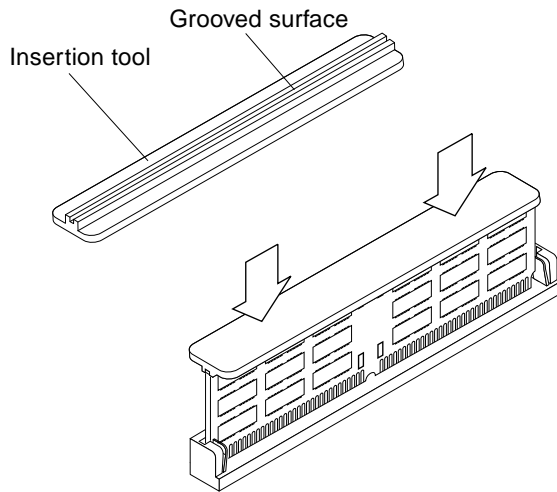
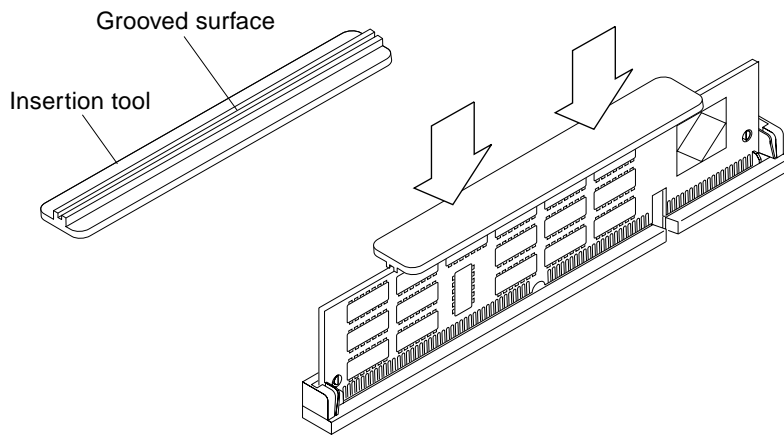

FIGURE 11-31 Inserting a DSIMM
FIGURE 11-32 Inserting a VSIMM/NVSIMM
8. Place the grooved surface of the insertion tool at a 90-degree angle on the upper edge of the SIMM (FIGURE 11-31 and FIGURE 11-32).